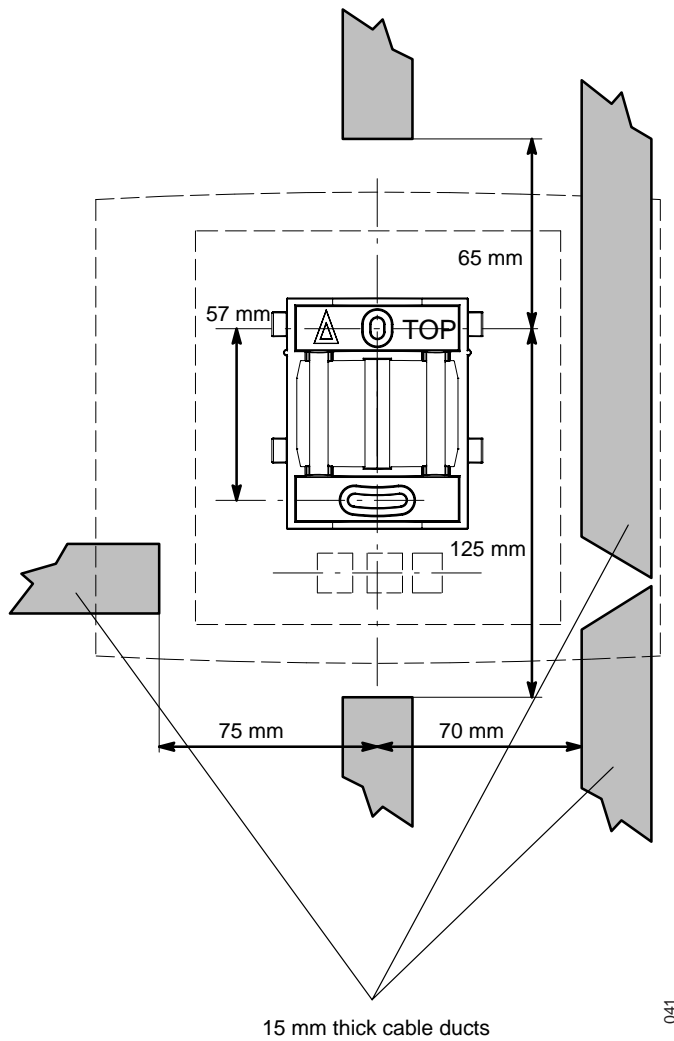

Figure 13. Minimum distances between a cable duct and the mounting bracket
- 1 Fix the cable duct to the wall in one of the positions shown in figure 13 on page 29.